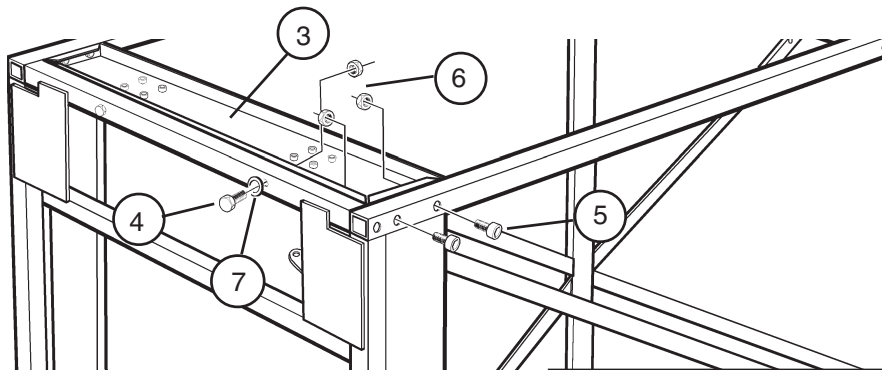

Figure 5: Inserting the Bearing Panel Assembly
Step 4: Insert the bearing panel assembly (Item 3) flush with the top frame assembly. Face bearing blocks inward. Secure using Items 4, 5 and 6 (Figure 5).